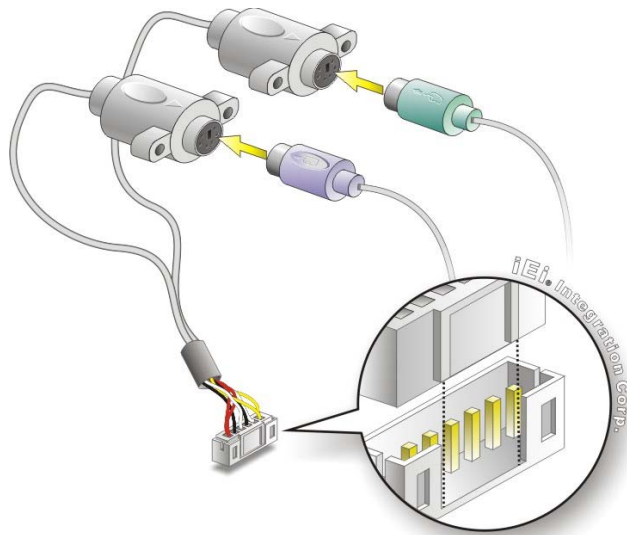

Figure 4-9: Keyboard/mouse Y-cable Connection
- Step 2: Align the connectors.** Correctly align pin 1 on the cable connector with pin 1 on the PM-PV-N4551/D5251 keyboard/mouse connector. See **Figure 4-9**.
- Step 3: Insert the cable connectors** Once the cable connector is properly aligned with the keyboard/mouse connector on the PM-PV-N4551/D5251, connect the cable connector to the onboard connectors. See **Figure 4-9**.